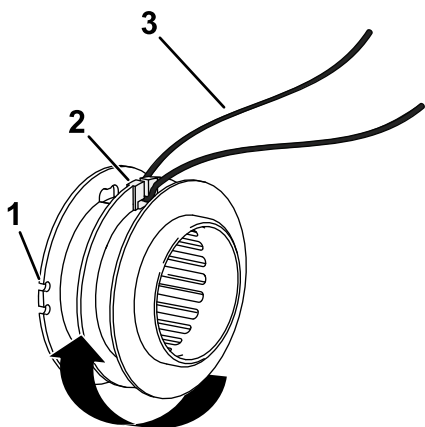

Figure 17
5. Bend the new string at the midpoint and insert the bend into the starter slot in the center rim of the spool (Figure 17).
6. Wrap the 2 halves of the string evenly and firmly around the spool as shown in Figure 17.
7. Wind the string, leaving just enough extending from the spool to contact the swath blade, and snap the ends into the guide slots on the spool (Figure 17).